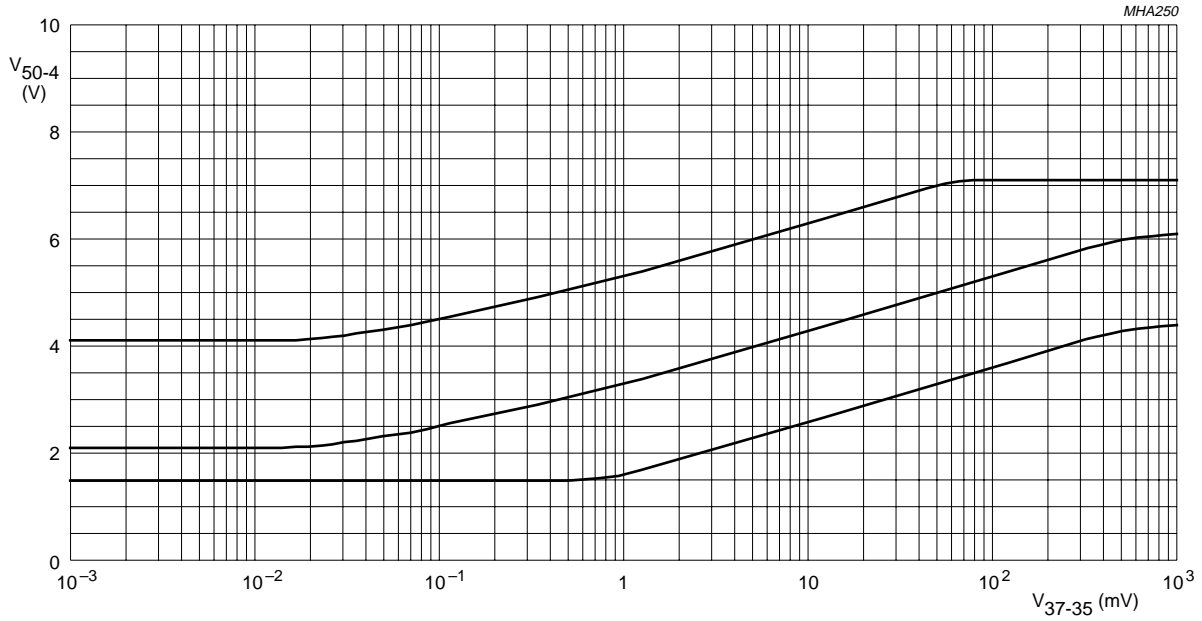

Fig.8 Adjustment range of unweighted voltage level.
- For typical adjusting range see Fig.8.